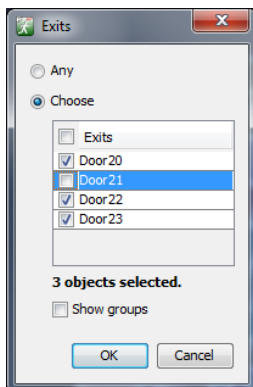

Figure 47: Exit Chooser dialog
- **Exits** – This specifies a set of exit doors the occupant is allowed to exit through during their final implicit exit action. Clicking this link will open the exit chooser, as shown in Figure 47.